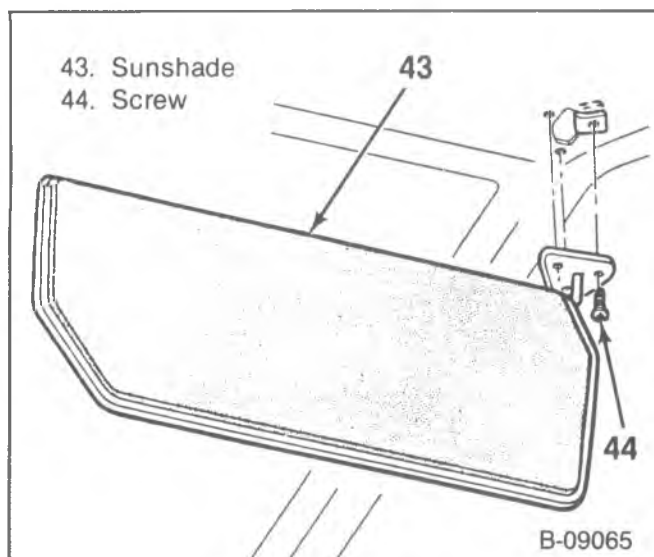

Figure 14—Sunshade
1. Windshield upper garnish molding screws (56) and the molding (55).
2. Side window garnish molding screws (58) and the molding (59).
3. Windshield garnish molding screws and the molding (57).
4. Roof rear header molding screws (60) and the molding (53).
5. Lock pillar garnish molding screws and the molding (61).
6. Sunshade screws and sunshade (figure 14).
7. Headliner (54) from the vehicle.
1. Headliner (54) to the vehicle.
2. Sunshade and screws (figure 14).
3. Lock pillar garnish molding (61) and screws.
4. Roof rear header molding (53) and screws (60).
5. Windshield garnish molding (57) and screws.
6. Side window garnish molding (59) and screws (58).
7. Windshield upper garnish molding (55) and screws (56).